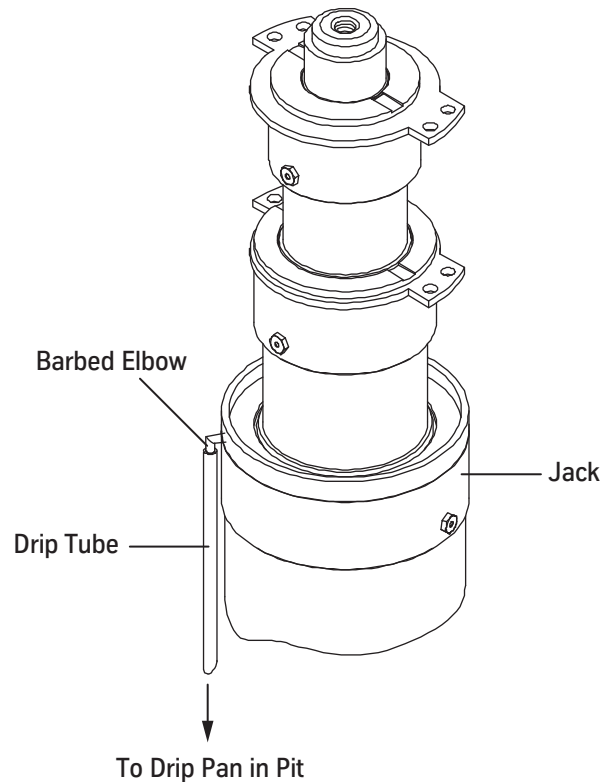

Figure 37 - Drip Tube Installation
1. Install the drip tube on the barbed elbow (located on the packing head), and run the tube to a drip pan in the pit. See Figure 37.